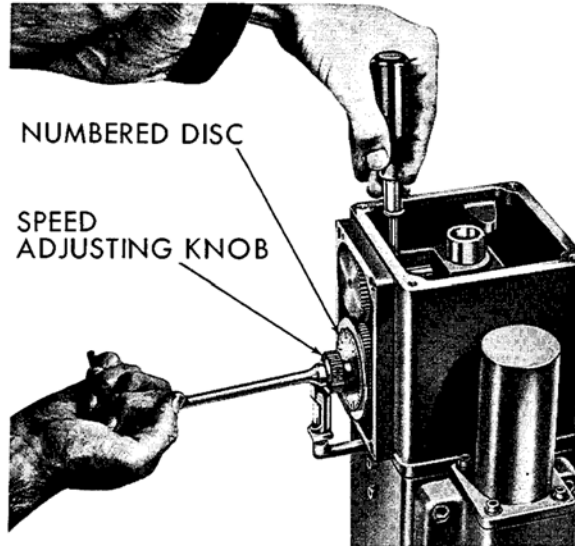
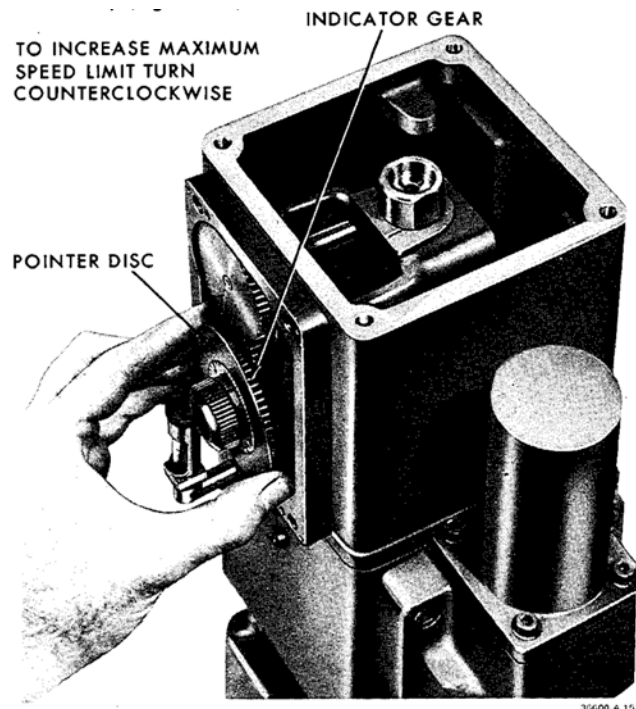
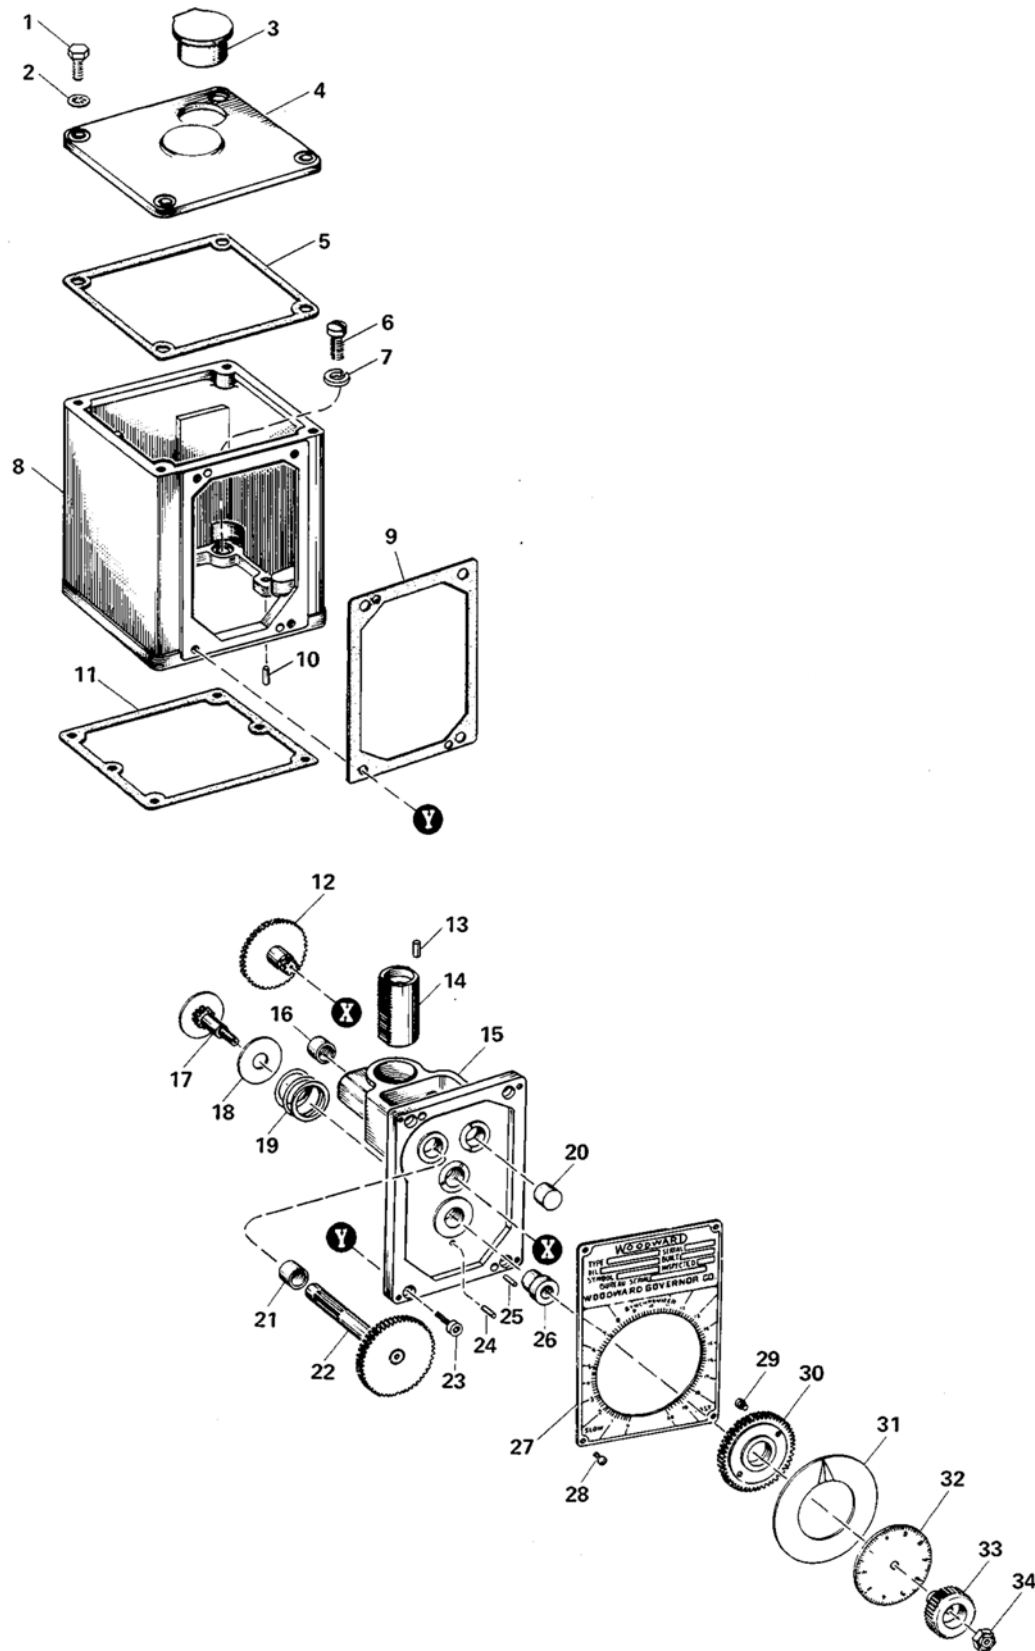

Figure 2-3. Holding Speed Adjusting Shaft
Figure 2-4. Disengagement of Indicator Gear
Figure 3-1. Exploded View, PG Dial Speed Setting
Refer to Figure 3-1, the exploded view of the dial speed setting, and the following for disassembly.
Now, before the nut is turned off the shaft, hold the inside end of the shaft (pc. 17, Figure 3-1) with a screwdriver (Figure 2-3) to prevent its being forced back through the bushing by the dial shaft spring, and remove the elastic stop nut, speed adjusting knob, and numbered disc. Replace the knob (leaving numbered disc off) and turn the stop nut back on, using only about two threads. Do not tighten. Remove the screwdriver and pull the indicator gear (30) with pointer disc (31) out of mesh with the pinion assembly (Figure 2-4).